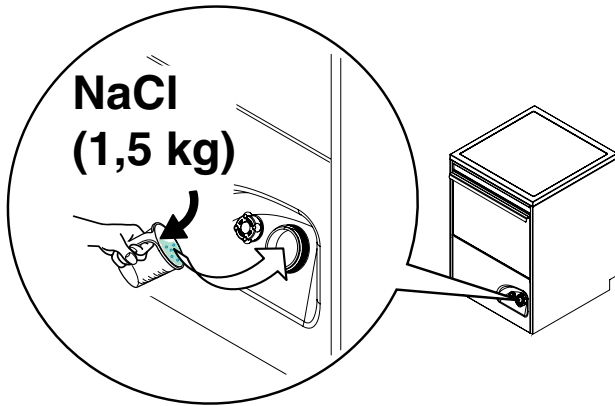

Figure 22
- Pour approx. 1.5 kg of coarse salt [NaCl] in container "A" (an amount sufficient to fill the salt container up to the rim) using the special funnel supplied (Figure 22).